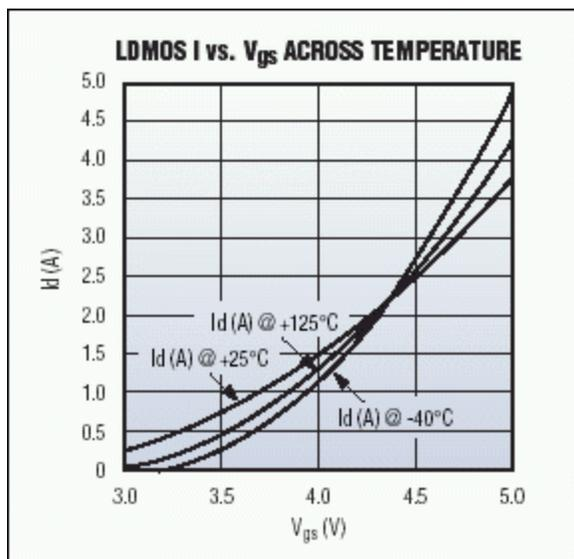
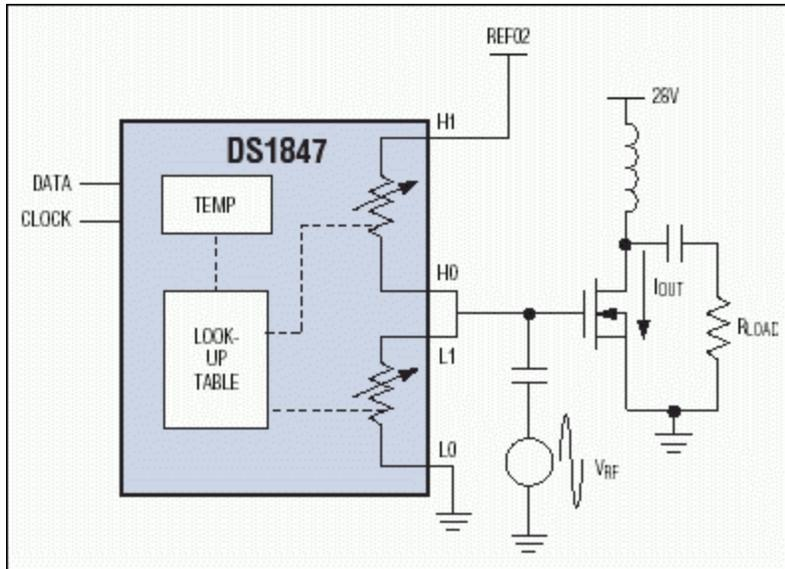

Figure 2. LDMOS characteristics are shown across temperature.
Figure 3. DS1847 dual, temperature-controlled variable resistor controls the gate of an LDMOS amplifier.
Biasing requires managing the DC content in the LDMOS current across temperature and supply variation. The ultimate objective is to ensure that the amplifier RF gain, as well as its distortion levels, varies within limits consistent with requirements. In this respect, proper biasing can assist linearization techniques to minimize distortion. The equation governing LDMOS's gain is  $I_{out} = K (V_{gs} - V_{th})^2$ , where  $K$  is a constant reflecting gain due to electron mobility and  $V_{th}$  is the FET's threshold. Both  $K$  and  $V_{th}$  are temperature dependent. In **Figure 2**, LDMOS characteristics are shown across temperature. In class AB, designers tend to operate the bias to the left of the crossover region where the gain has a positive temperature coefficient. In class A, operation occurs to the right of the crossover region.
**Figure 3** shows a DS1847 dual, temperature-controlled variable resistor controlling the gate of an LDMOS amplifier. The DS1847's internal temperature sensor provides a temperature reading to its look-up tables. These look-up tables adjust the IC's two 256-position variable resistors so the amplifier's gate receives the proper bias voltage. The user programs the look-up tables to generate a constant LDMOS-amplifier output current. Refer to Figure 2 (or to manufacturer-specific data curves) for LDMOS characteristics. By using the two resistors to attenuate the reference voltage, a temperature-insensitive voltage is maintained.